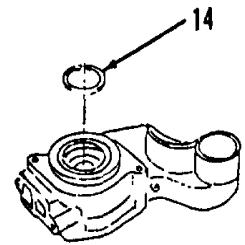

Figure 3-189.
7. Using snap ring pliers, install ring (14, Figure 3-189).